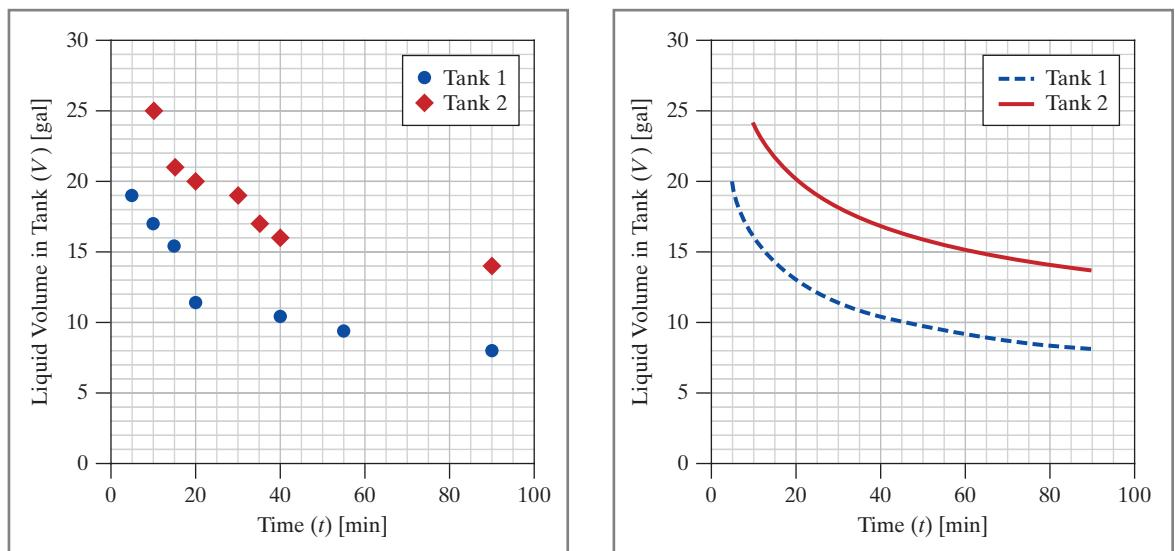

Figure 11-3 Illustration of experimental data (shown as points) versus theoretical data (shown as lines).
- **Show measurements as symbols. Show calculated or theoretical values as lines.** Do not display symbols for calculated or theoretical values. A symbol shown on a graph indicates that an experimental measurement has been made (see Figure 11-3).